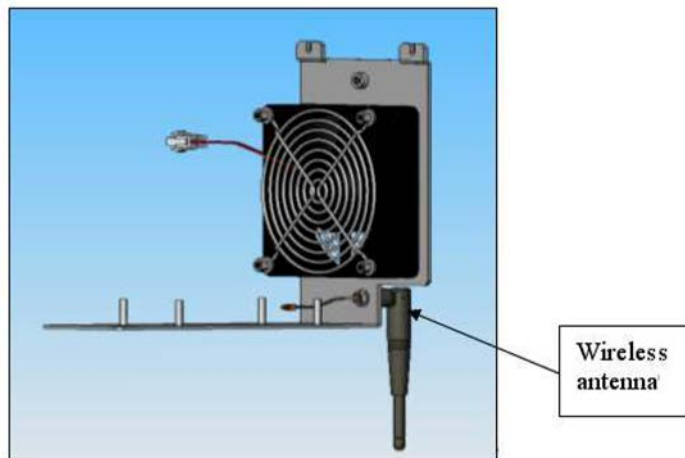

Figure 12 Wireless Antenna
- 7 Hand tighten the antenna to the fan bracket, and then apply a $\frac{1}{2}$ turn using an adjustable wrench (Figure 12: Wireless Antenna).